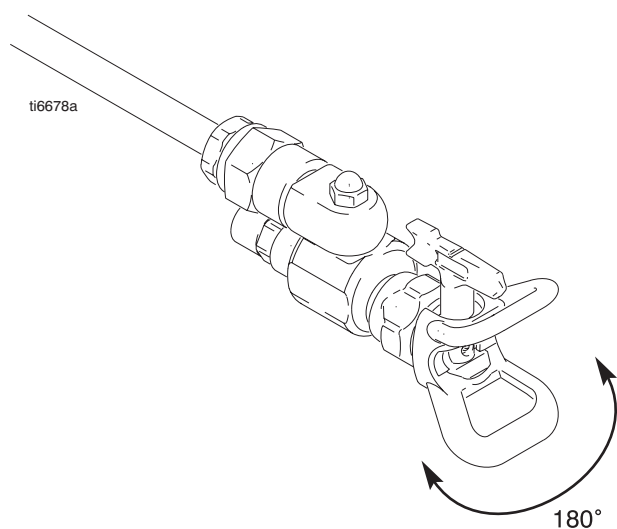
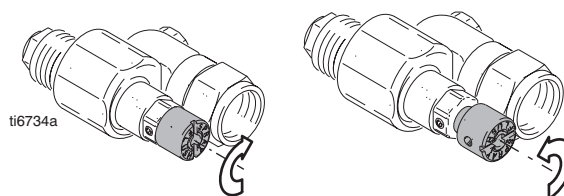

Fig. 1 \_\_\_\_\_
Fig. 2 \_\_\_\_\_
## Installing the Tip and Guard (Fig. 1 and Fig. 2)
- 1 Without the spray tip installed, start sprayer, turn the knob on the Low Overspray CleanShot Valve counter-clockwise to the FLUSH position (Fig. 2).
- 5 Turn the knob of the Low Overspray CleanShot Valve to SPRAY (Fig. 2).